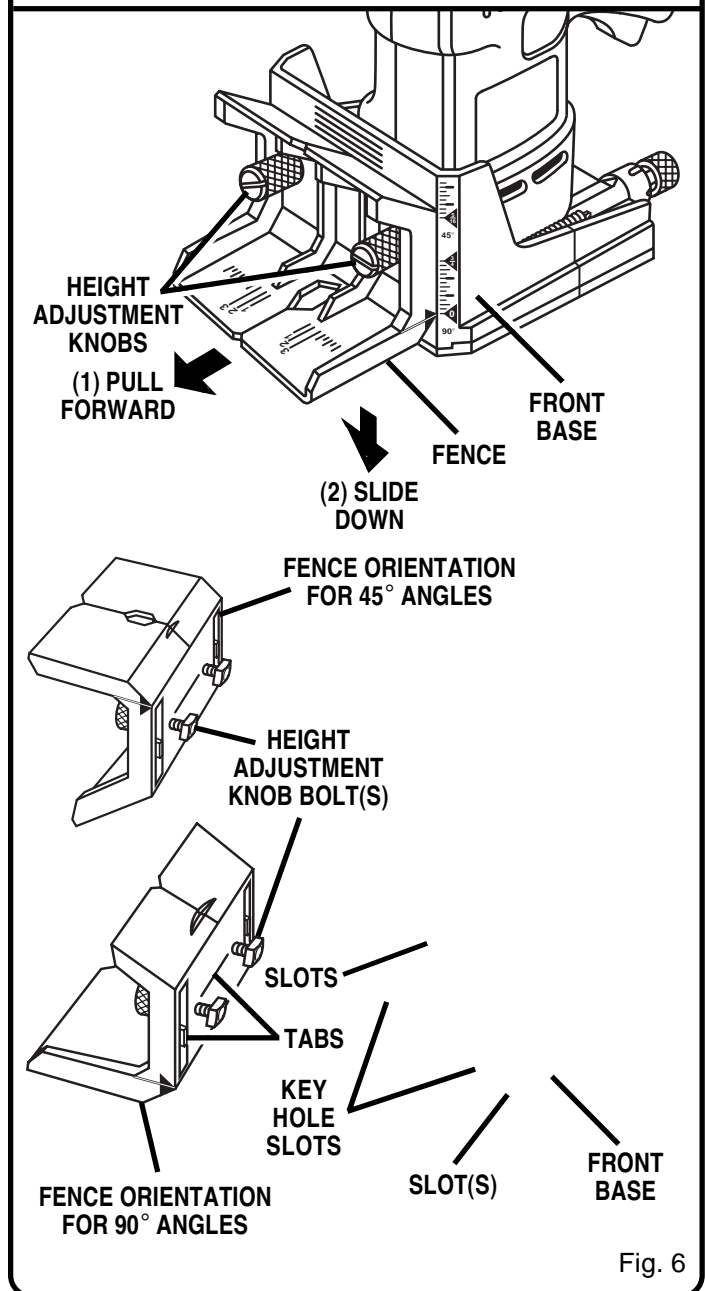

Fig. 6
NOTE: Slots in the front base align with a tab on the backside of the fence. See Figure 6. This alignment keeps the fence square at each height setting.
See Figure 6.
- Tighten height adjustment knobs securely. See Figure 6.